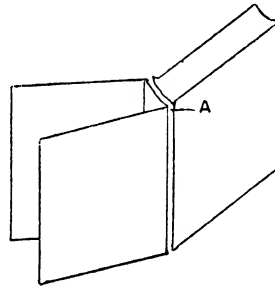

Fig. 117.—Removing Leaves of Book from Case.
**Re-casing Books.**—It is here described how to treat books bound in publishers' covers which have become loose and untidy through usage, it being required to take them out and put them back again in the same covers. Ordinary cloth-bound books are never very strongly bound, and in a short time begin to show signs of wear. When in this state, the best remedy is to take them out of the cases or covers, re-sew them, and return them to the original cases. This work is well within the range of the amateur bookbinder. Turn both boards back from the book as shown in Fig. 117, and cut down the joint at A. The knife used should be sharp, as it will have to cut through the tape or cord on which the book has been sewn, and also the lining of the back. But care